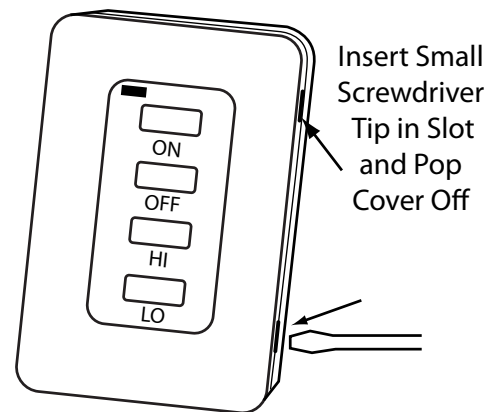

Fig. 2. Removing Front Cover
1. Remove face from backing plate by inserting a small screwdriver into the small slot at the top or bottom of the faceplate as shown then snap OFF (See figure 2).
1. Remove face from backing plate by inserting a small screwdriver into the small slot on the side at the top or bottom of the faceplate as shown then snap OFF (See figure 2).
2. Locate the (2) holders for the 3V button cell batteries.
2. Remove the faceplate as shown in figure 2, page 1.